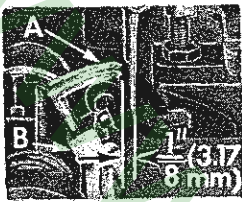
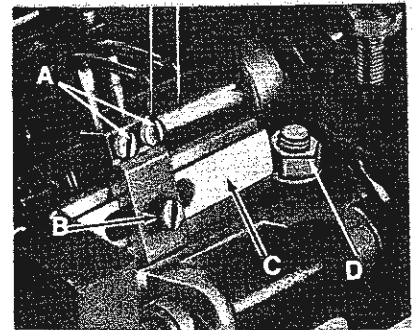

Fig. 3
Fig. 4
Insert loopers (A, Fig. 3) in looper holders (B) as far down as their shanks will permit, with their points toward the operator. The right side of the looper blades should be at right angles (90°), to the centerline of the mainshaft. Tighten screws
(A, Fig. 4). Loosen screw (B) and position looper holder so that the point of the loopers when moving forward, passes the left side of the needles as close as possible without picking at the needles, .003 inch (.076 mm) clearance. Retighten screw (B). Set the looper holder frame (C) so the distance between the centerline of the needles
and the point of loopers are 1/8 inch (3.18 mm) when the loopers are at their farthest point of travel to the rear (Fig. 3). This can be accomplished by loosening the hexagon nut (D, Fig. 4) in the looper holder frame driving arm. Move the looper holder frame (C) towards the front or rear as required and retighten nut (D). Looper gauge No. 21225-1/8 can be used advantageously in making this adjustment. **NOTE:** The 1/8 inch (3.18 mm) looper gauge setting must be made with both loopers, in order to maintain proper needle bar alignment.